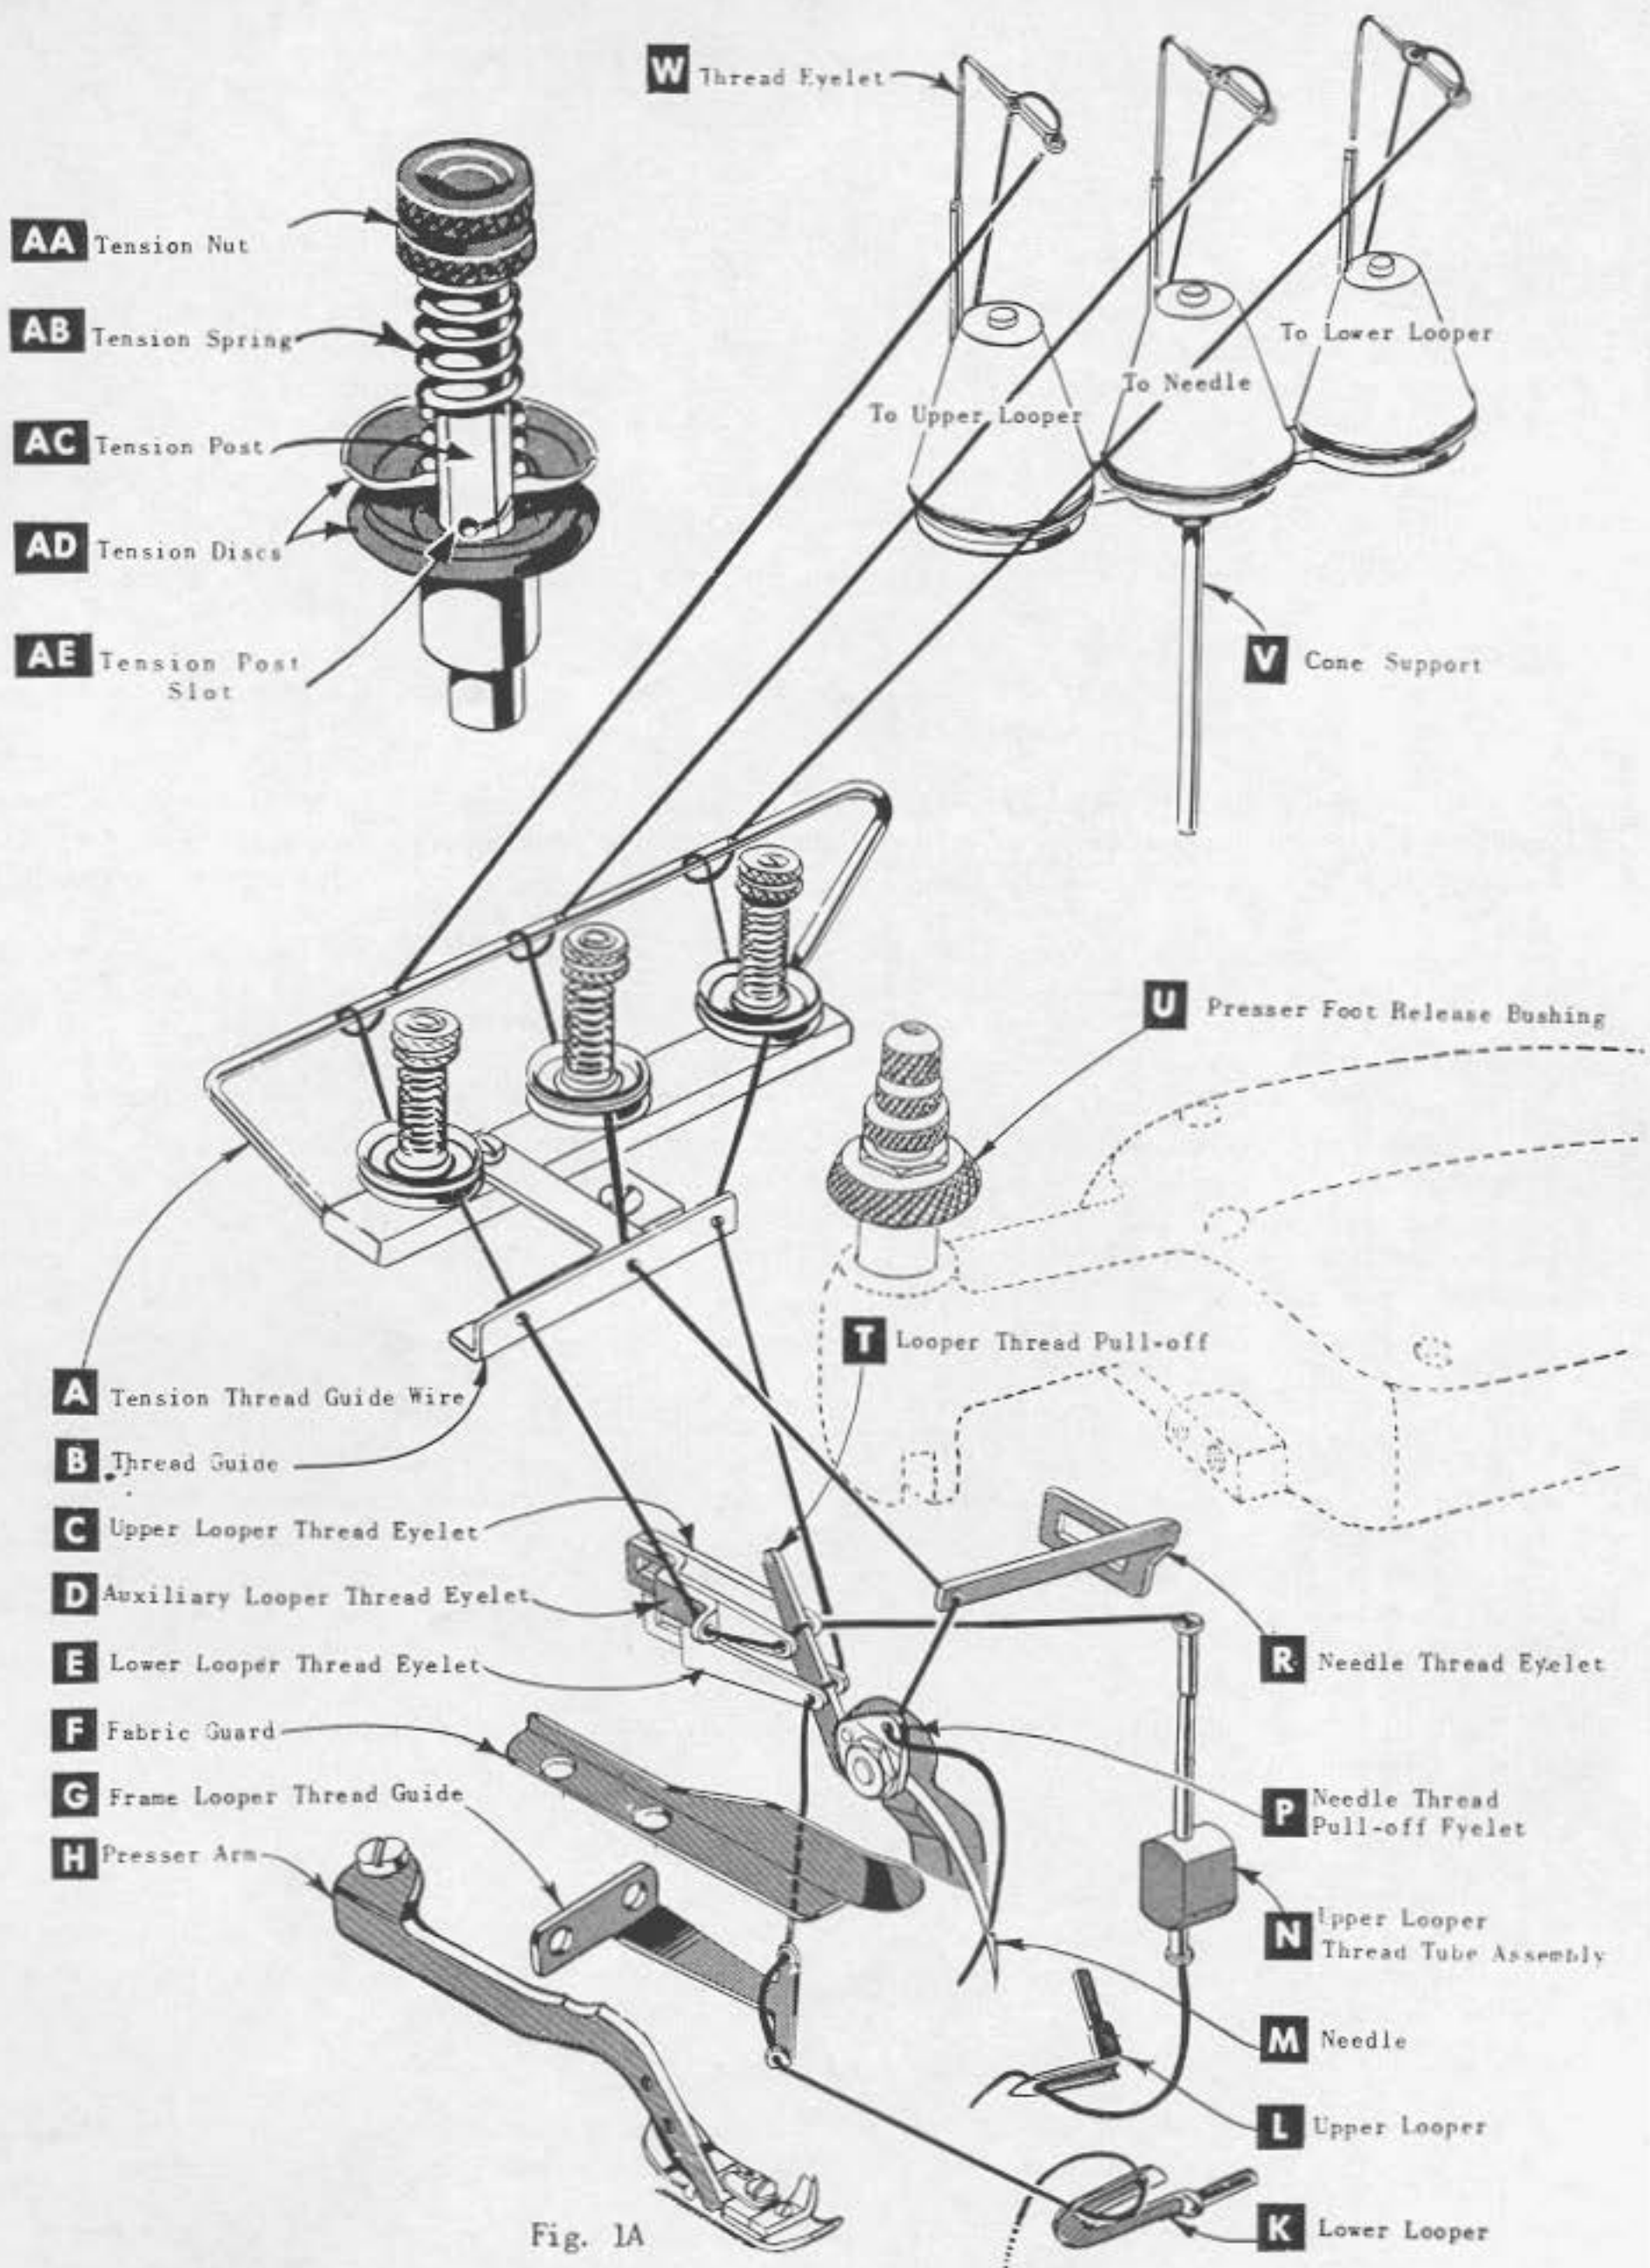

Fig. 1A
After thread comes from cone on thread stand (V, Fig. 1A), it is brought up through back thread eyelet, then down through front thread eyelet (W). Next it is threaded down through right hand hole of each pair of holes in tension thread guide wire (A), and up through left hand hole. Then thread continues between tension discs (AD), through slot (AE), and on through thread guide (B).
Only parts involved in threading are shown in threading diagram (Fig. 1A). Parts are placed in their relative positions for clarity.
Double end of thread and lead it through both eyes of lower looper thread eyelet (E, Fig. 1A) from right to left. Note thread must pass in front of looper thread pull-off (T). Lead thread behind fabric guard (F) and through both holes of frame looper thread guide (G). Turn handwheel in operating direction until heel of lower looper (K) is all the way to the left; then thread through both eyes from left to right. Right eye of lower looper can be threaded easily if tweezers are in left hand.
Turn handwheel so that needle (M, Fig. 1A) is again at high position. Lead thread through auxiliary looper thread eyelet (D) from back to front, and then through both eyes of upper looper thread eyelet (C) from left to right. Note that thread must pass in front of looper thread pull-off (T). After pulling up upper looper thread tube assembly (N), lead thread under neck of top cover casting and down through thread tube assembly. Pull thread out bottom of tube; push tube down. Turn handwheel until point of upper looper (L) is all the way to the left; then insert thread through eye from front to back.
Turn handwheel in operating direction until needle (M, Fig. 1A) is at its highest position. Insert needle thread from back to front, through eye of needle thread eyelet (R), under neck of top cover casting; then right to left through hole in needle thread pull-off eyelet (P). Thread needle from front.
The amount of tension on needle and looper threads is regulated by three knurled tension nuts (AA, Fig. 1A). Tension on threads should be only enough to secure proper stitch formation.